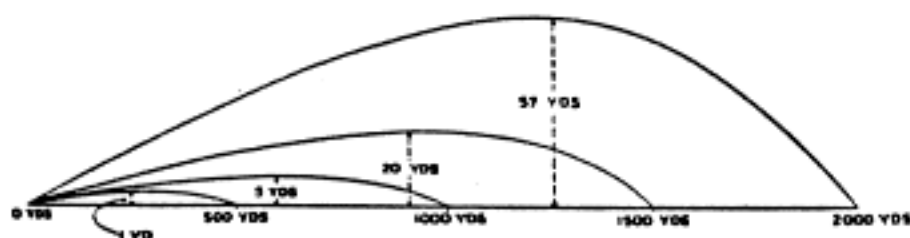

Figure 5. Maximum ordinates for M2 ball ammunition.
a. *Maximum Ordinates.* The maximum ordinates of caliber .30 ammunition (fig. 5) vary slightly from those of 7.62-mm ammunition.